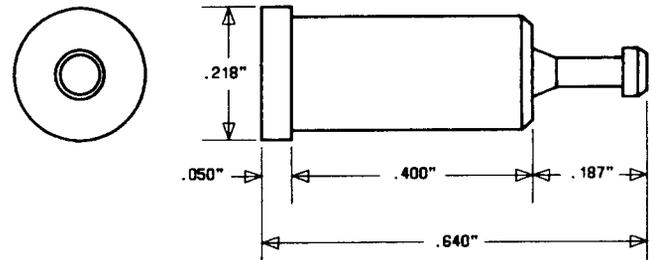

Fig. 16—KS-22493, L1, Jack
**2.09 KS-22493, L1:** The KS-22493, L1 jack (Fig. 16) is a test jack containing a molded teflon bushing with a metal terminal lug. The jack will accept 0.080 inch diameter test probes.